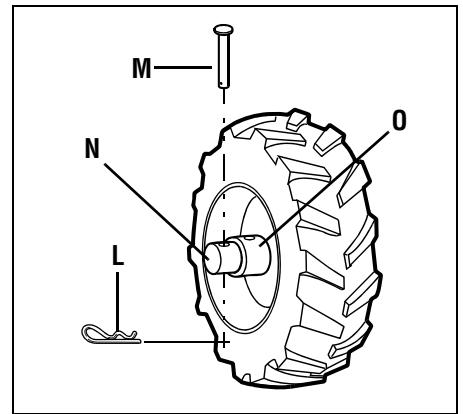

Fig. 2-3: Wheel in FREEWHEEL position (wheel drive pin through wheel shaft only).
Remove the hairpin cotter (L, Fig. 2-3) and wheel drive pin (M) from the wheel hub (O) and wheel shaft (N).
3. Slide the wheel fully inward on the wheel shaft (N, Fig. 2-3). Reinstall the wheel drive pin (M) through the wheel shaft only (not through the wheel hub). Secure the wheel drive pin with the hairpin cotter (L), pushing the hairpin cotter in as far as it will go. The wheel should now spin freely (freewheel) on the wheel shaft. Repeat with the other wheel.